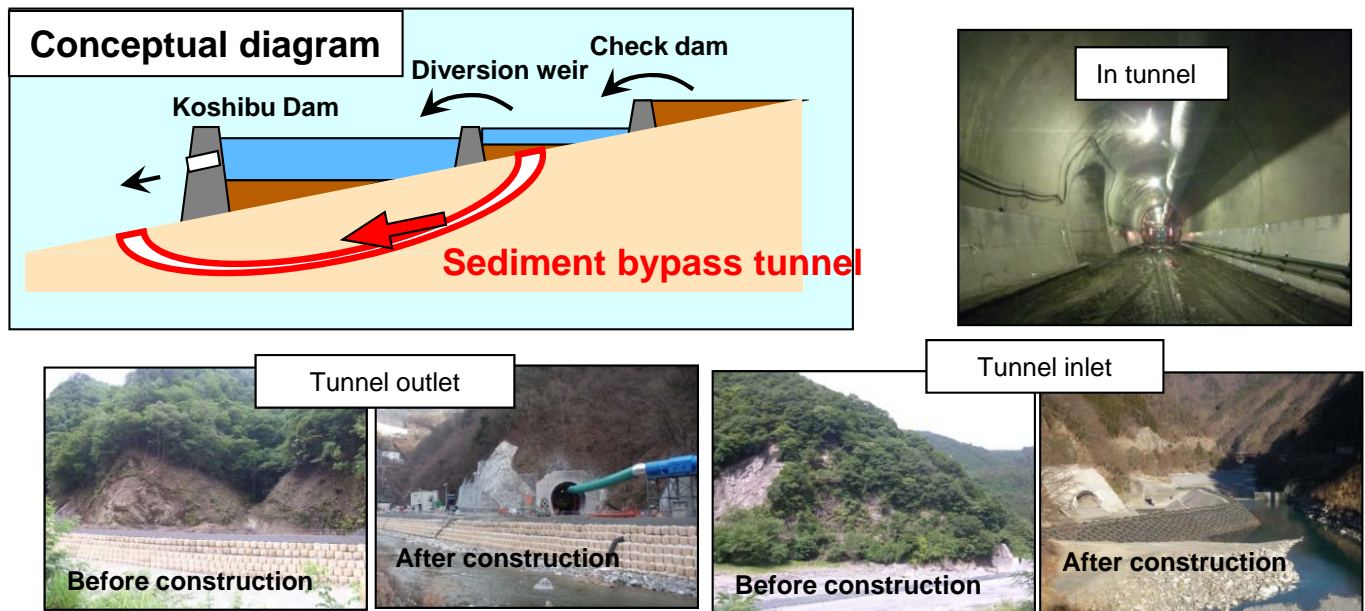

Fig.5-1 Koshiu Dam
- Koshiu Dam in Nagano Pref.(Fig.5-1)